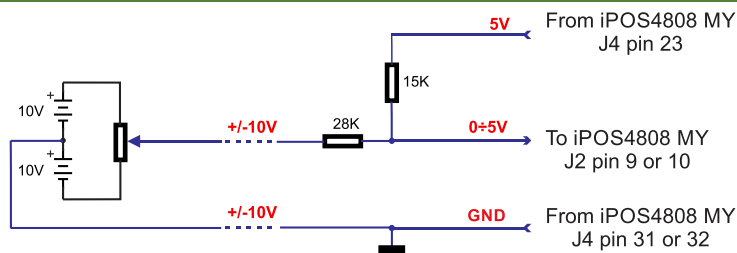

Figure 3.9. +/-10V to 0-5V adapter
1. Default input range for analog inputs is 0+5 V for REF and FBDK. For a +/-10 V range, see Figure 3.9.